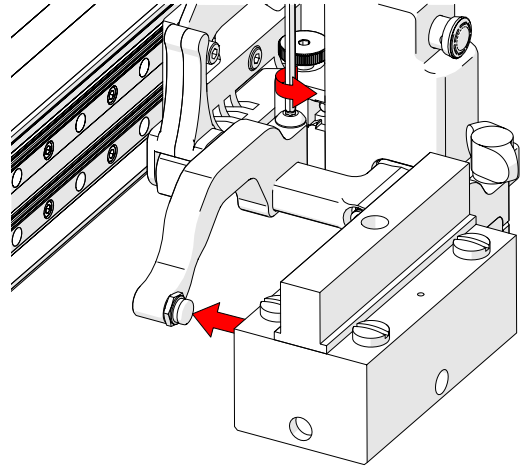

Fig. 129 - Adjust inner arm
4. Loosen the arm clamp screw (Fig. 129).
5. Place the wedge on the pivot button of the inner probe holder arm (Fig. 129).